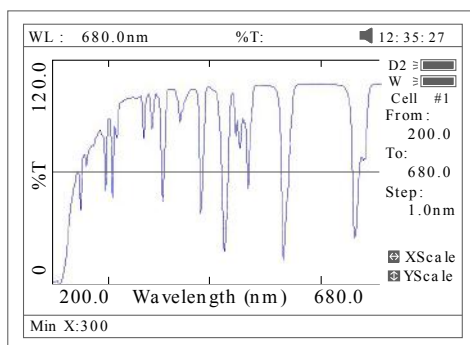
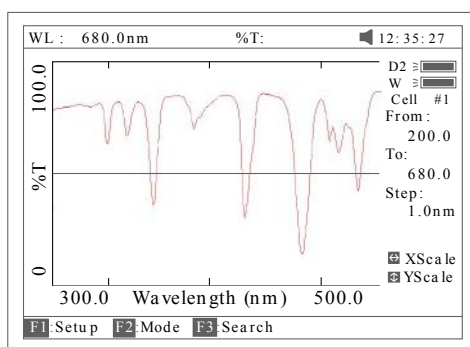

Fig47
Fig 48
5. If you want to change the scale, press [<] or [>] to change “x” scale (Fig 47), input upper limit and lower limit by pressing the numeric keypad. To change “y” scale press [^] or [v]. After these inputs the instrument will redraw the curve (Fig 48).
Press [**SAVE**] to save the curve. Note: Load/Save requires the first scan display page Fig 48. Press **ESC** if in Search to return to the required page